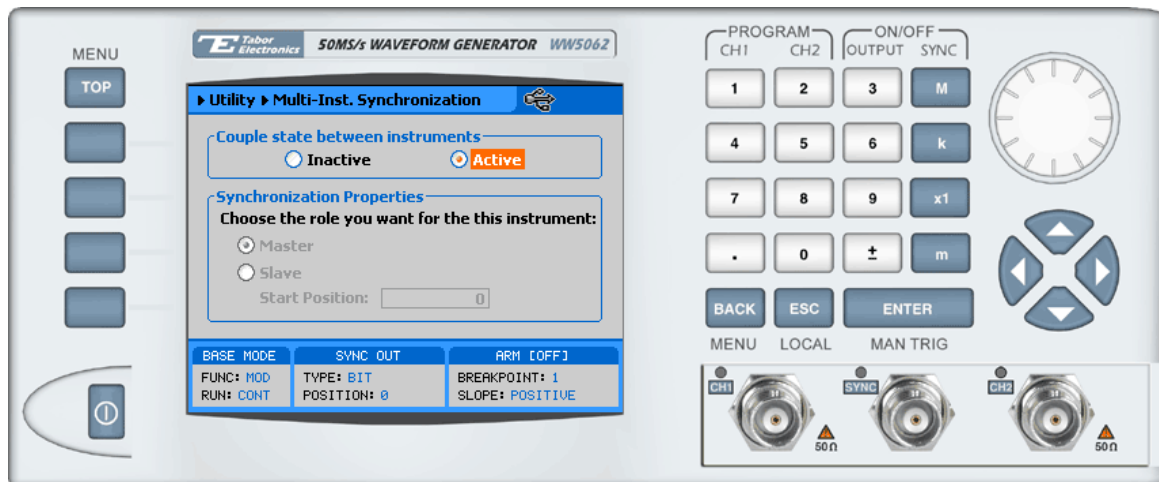

Figure 3-30, Setting up Master/Slave Parameters
Hard wiring the instruments from the back is not enough. You now have to set up the first instrument in the chain as master and the other instruments as slaves. Refer to Figure 3-30 and the following description to learn how to set 5062 instruments as master and slaves.
2. Select the Utility menu and scroll down to the Multi-Inst. Sync option. Press Enter and the dialog box as shown in Figure 3-30 will appear.